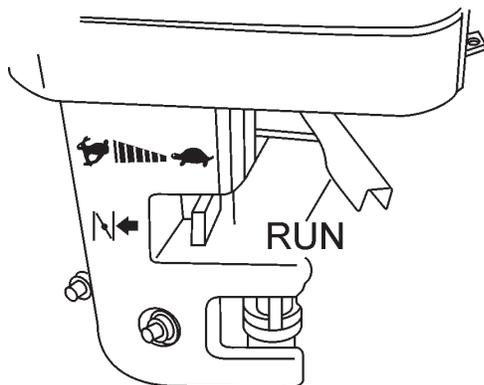

Figure 13. Throttle Lever (Run)
- To begin pumping, place the throttle lever (Figure 13) in the “**RUN**” position.